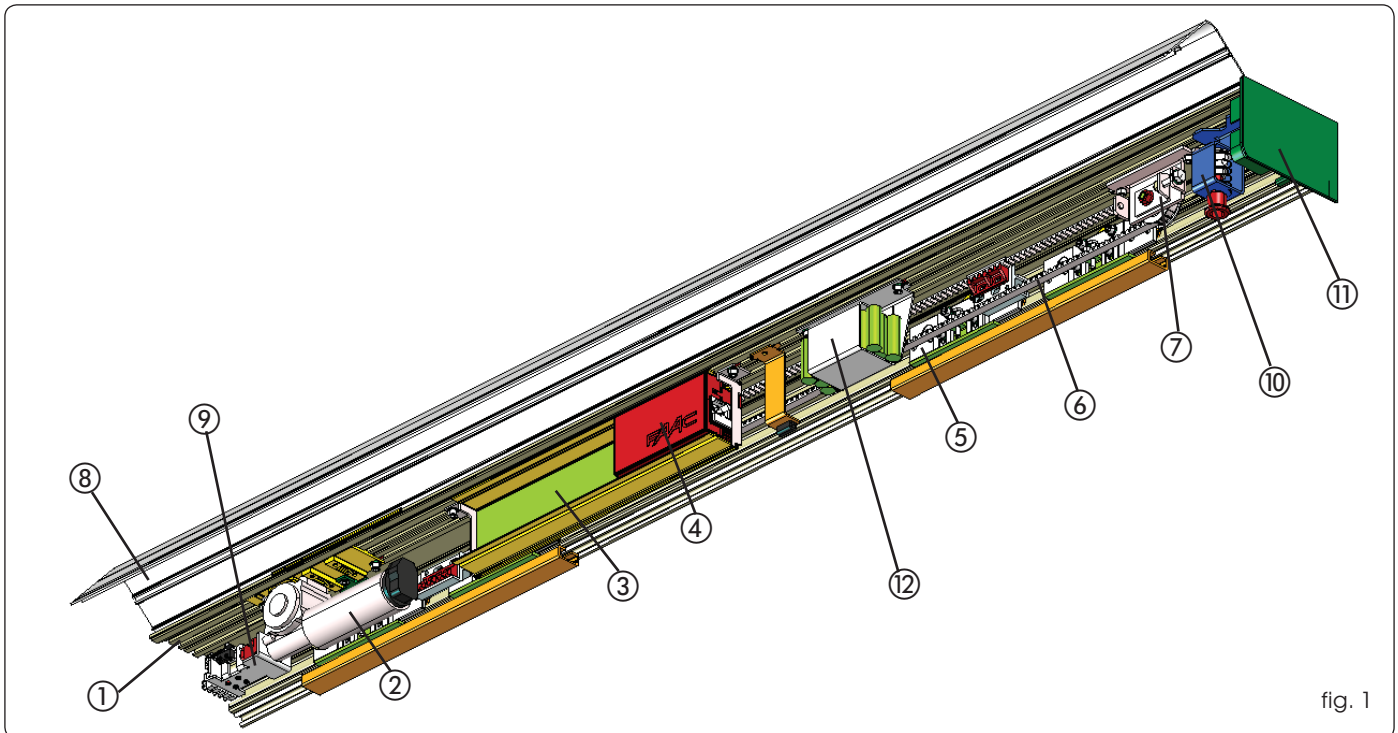

fig. 1
An automation cross beam (fig.1) consists of the following parts:
Support profile (fig. 1 ref. ①)
Motor unit (fig. 1 ref. ②)
Control unit (fig. 1 ref. ③)
Power feed unit (fig. 1 ref. ④)
Leaf support carriages (fig.1 ref. ⑤)
Drive belt (fig. 1 ref. ⑥)
Transmission pulley unit (fig. 1 ref. ⑦)
Closing housings (fig. 1 ref. ⑧)
This is the aluminium profile enabling closure of the automated system. The side panels (fig.1 ref. ⑪) completely close the system.
Motor lock unit (fig. 1 ref. ⑨)
The motor lock unit is supplied with the internal release device (Fig.1 ref. ⑩) used for emergency opening if needed. It is also designed for installation of the external release (optional) if required. The motor lock unit acts directly on the motor, locking it mechanically.
Emergency battery (fig. 1 ref. ⑫)